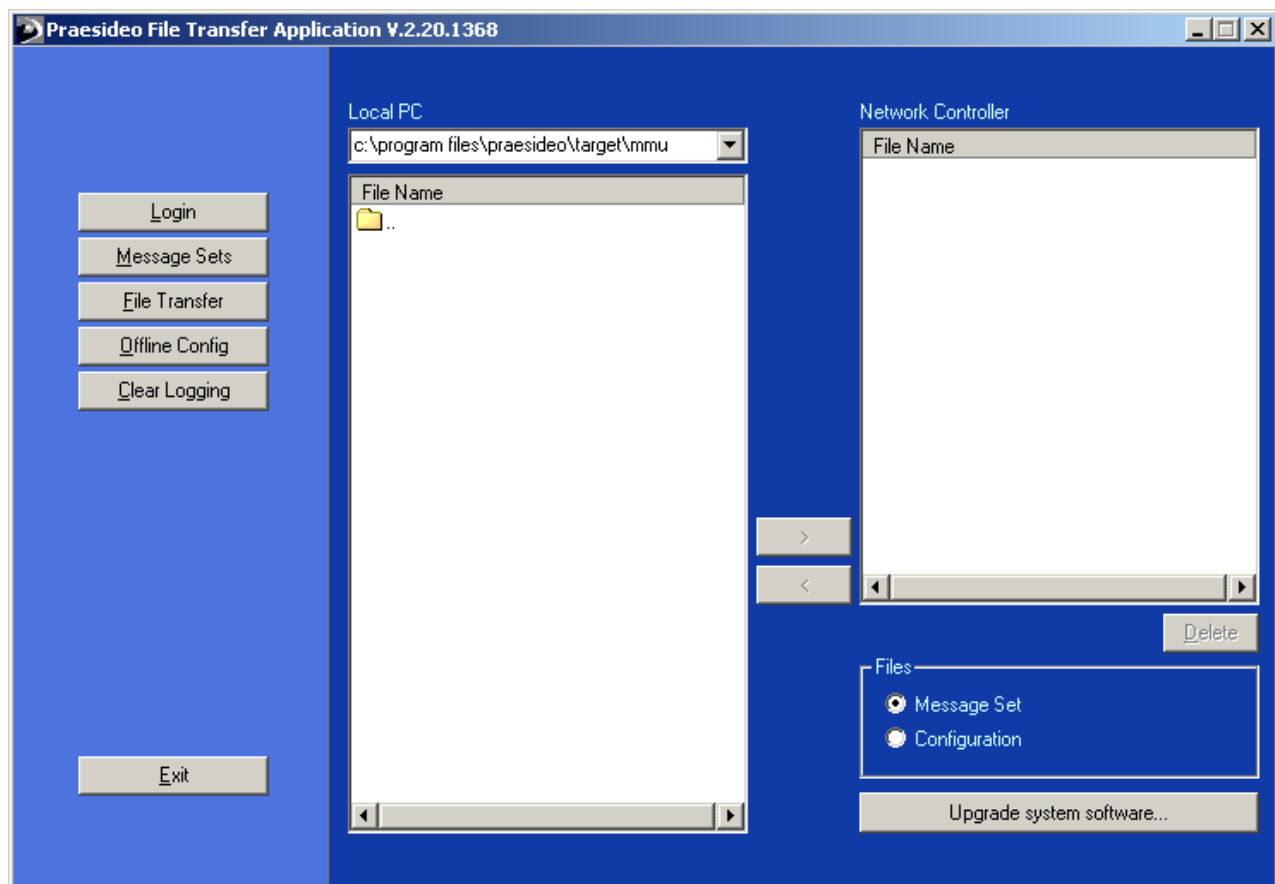

figure 28.7: File transfer screen
- 1 In the *File Transfer Application*, click the *File Transfer* button. A screen similar to the one in figure 28.7 appears.